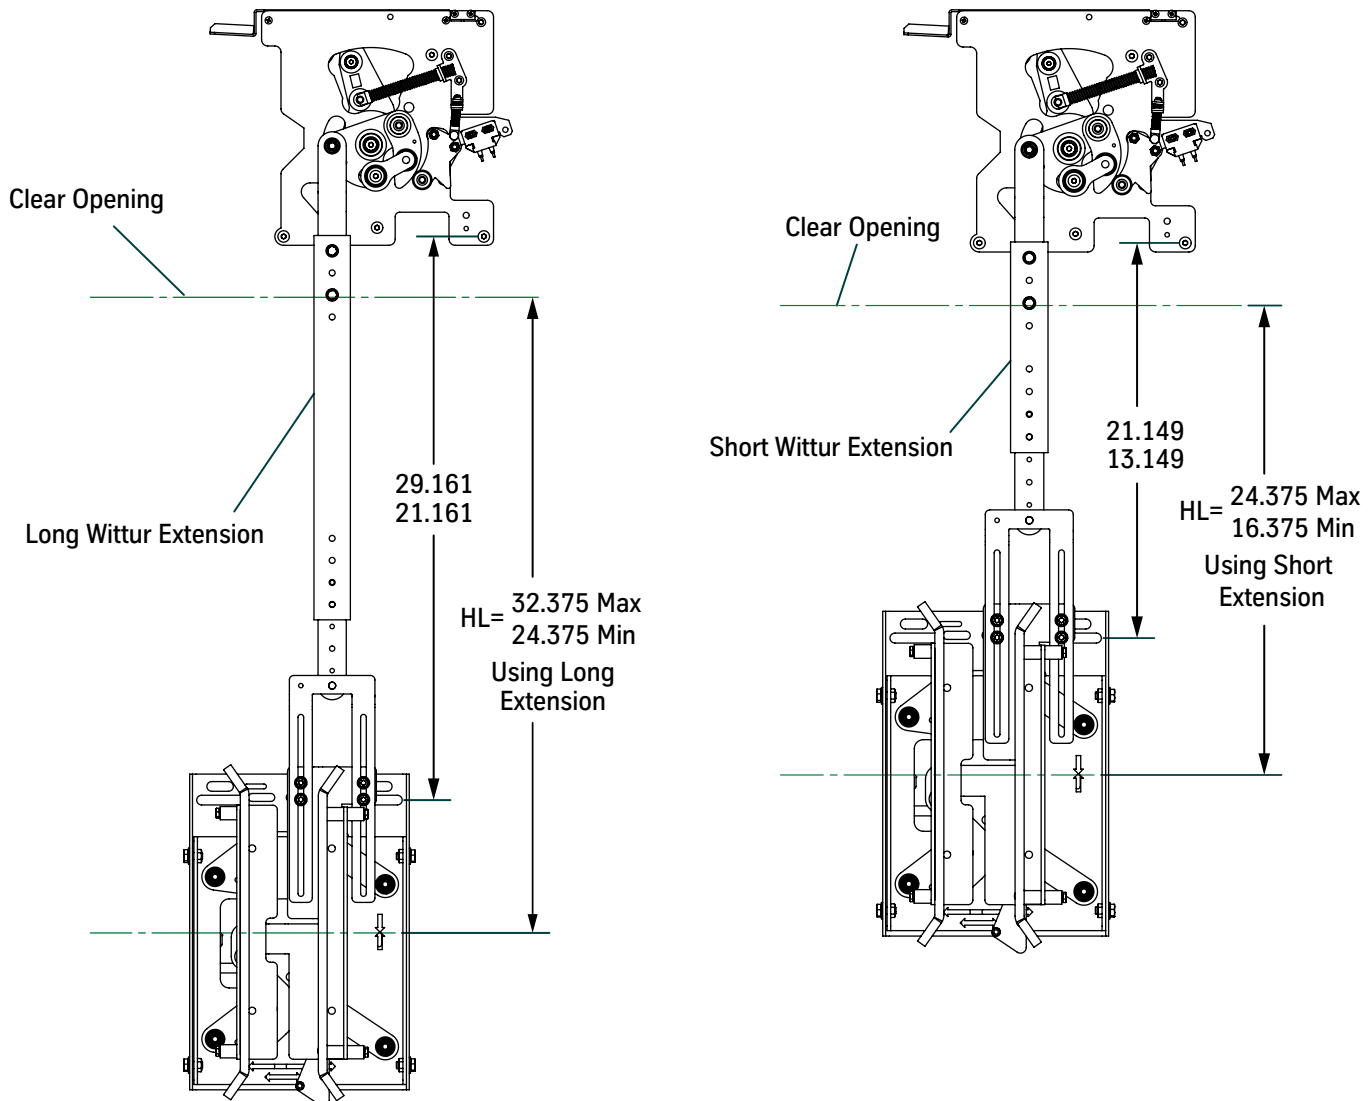
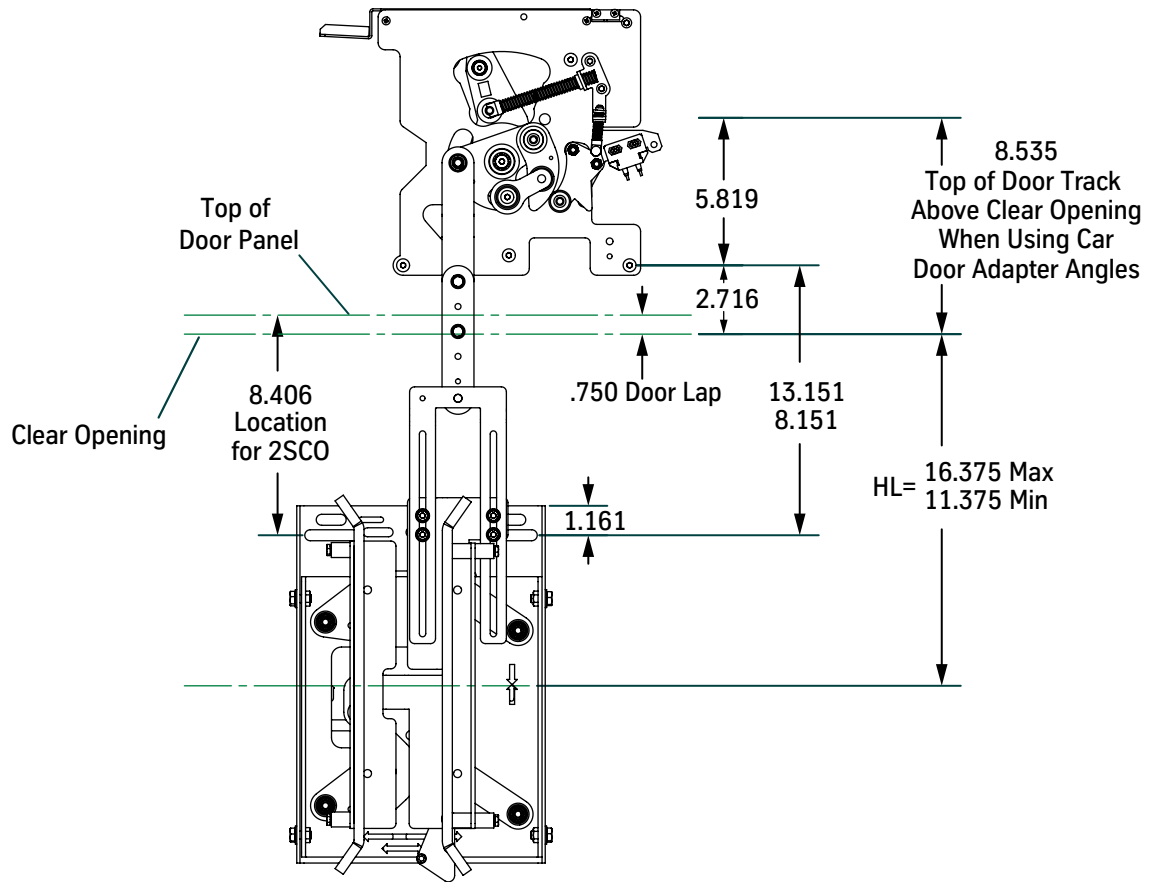

Figure 47 - Adjust Clutch and Linkage - Short and Long Wittur Extensions
Figure 48 - Adjust Clutch and Linkage - Two-Speed Center-Opening
14. Adjust clutch and clutch actuator linkage. See Figure 47 below and Figure 48 on page 57.